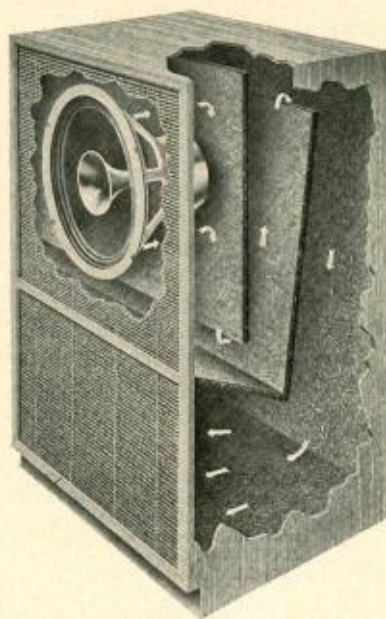

Fig. 5. The exponential acoustical labyrinth which accounts for good low-frequency response.
Either of the two loudspeakers may be mounted in the exponential acoustical labyrinth cabinet, such as is shown in Fig. 5. This enclosure retains the ideal damping and loading characteristics of Benjamin Olney's original acoustical labyrinth, described in reference (1). In addition, it provides more extremely-low-frequency radiation than has been obtained heretofore. The absorbent material from which the labyrinth is constructed completely absorbs the back wave down to the middle low frequencies in the vicinity of 100 to 150 cps. Below this range the labyrinth extends the bass response and smooths out